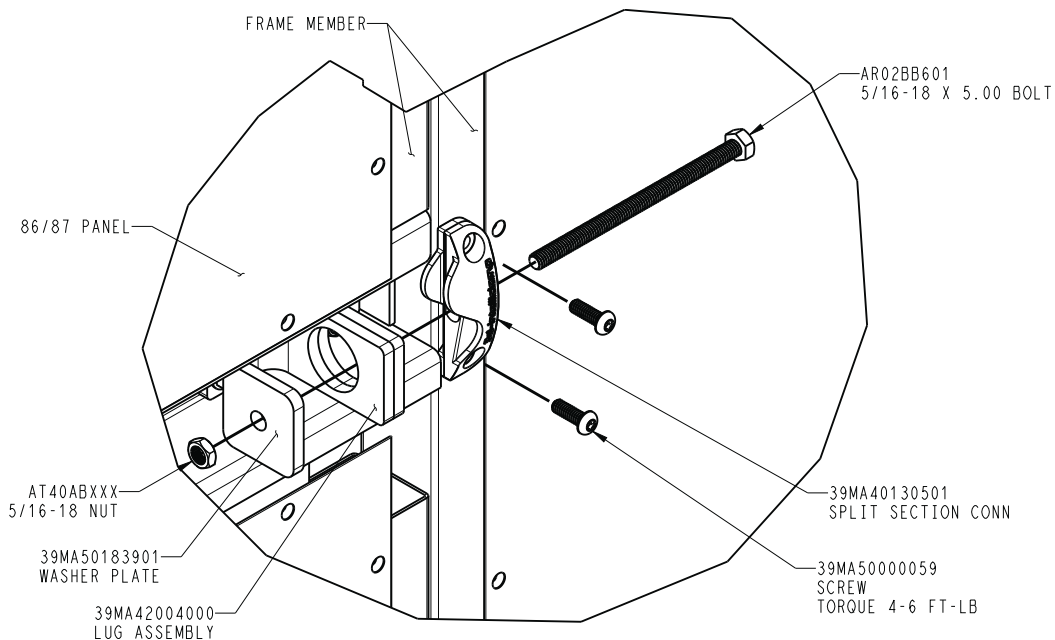

Fig. 166 — Secure ERV Wheel on 3 in. Baserail
9. Secure the ERV wheel section 3 in. baserail to the return air module frame intelliclamp as shown in Fig. 166.
12. Secure the upper ERV wheel bypass section 3 in. base rail to the return air module frame intelliclamp as shown in Fig. 166.
14. Secure the ERV wheel section 3 in. baserail to the exhaust air module frame intelliclamp as shown in Fig. 166.
17. Secure the ERV wheel section 3 in. baserail to the outside air module frame intelliclamp as shown in Fig. 166.